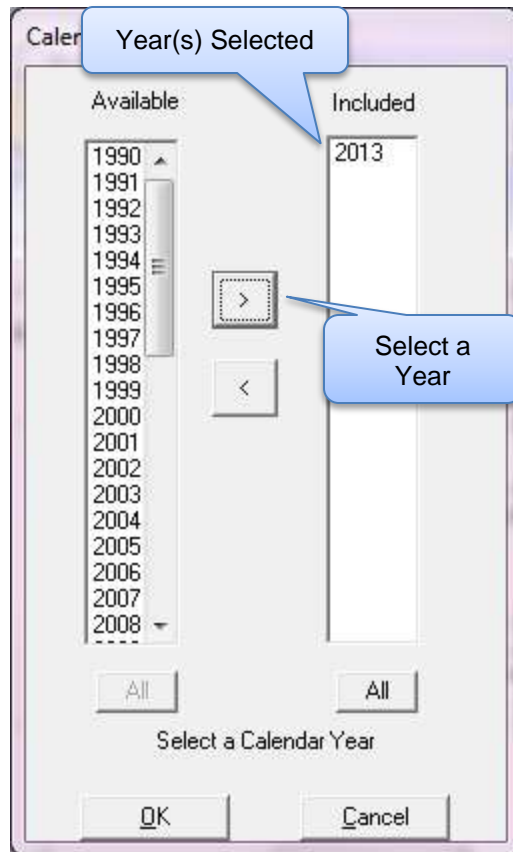

Figure 3-4 EMFAC2011 - Years
6. Under “Step 2 – Calendar Year” click the “Select” button. Select the desired year(s) to be evaluated from the dialog window that appears, see Figure 3-4.